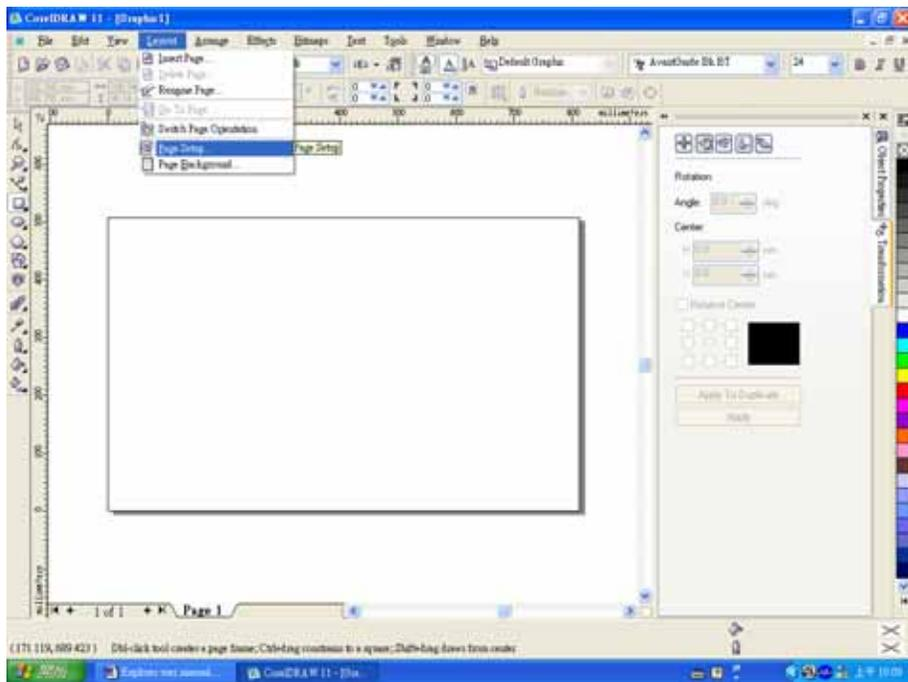

Fig. 6-1 Page and Layout Setup in CorelDraw
- Click LAYOUT → PAGE SETUP (see fig. 6-1)